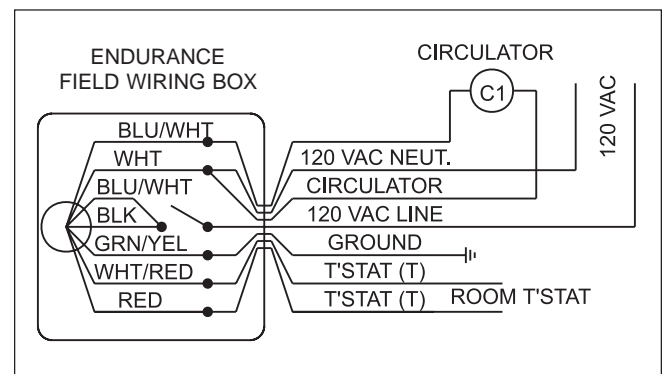

Figure 21. Single Zone with Added Circulator(s) and Room Thermostat(s).
2. For single zone installations: (If external pump is required, e.g., because of large system pressure drop) connect room thermostat wires to the red and white/red wires. Connect circulator (120 volt, 5 amps maximum) between the blue wire and the white wire (neutral) (see Figure 21).